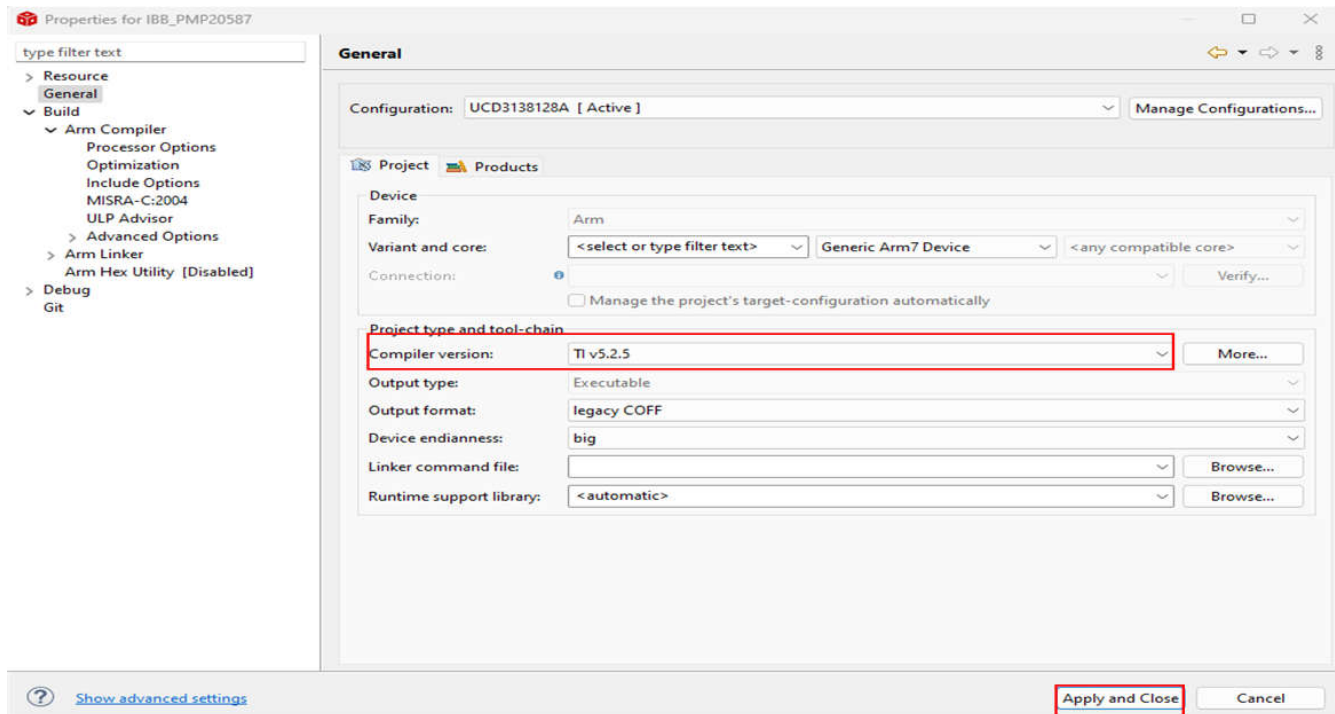

Figure 2-8. Switch to the Compatible Compiler Version
Step4: Switch the compiler to v5.2.5, as shown in Figure 2-8.